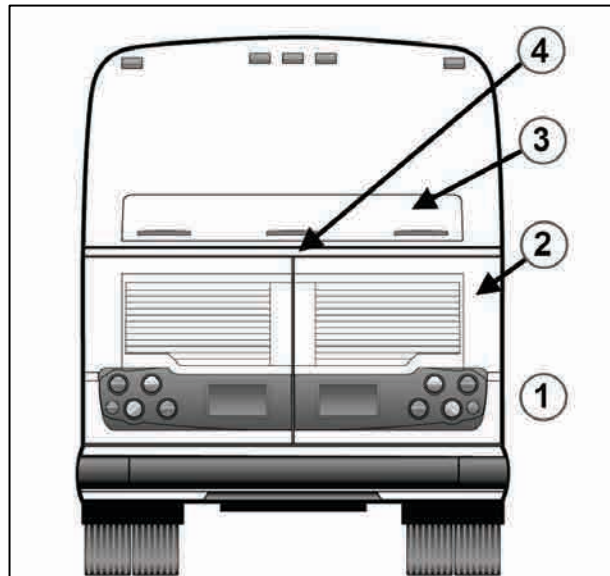
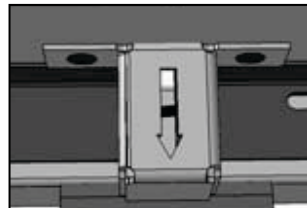
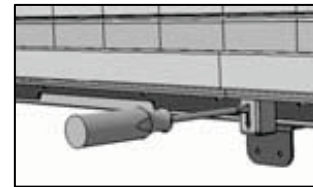

Figure 4: Door opening sequence
Figure 5: Latch release
Figure 6: Latch operation
To open the engine compartment rear doors, open the engine compartment curb side door (1, fig. 4).
Open the rear engine doors (2, fig. 4)
2. Open the Exhaust aftertreatment access door (3, fig. 4) by lowering the latch release bar (4, fig. 4) & (Fig. 5) with the help of a screwdriver. (Fig. 6)